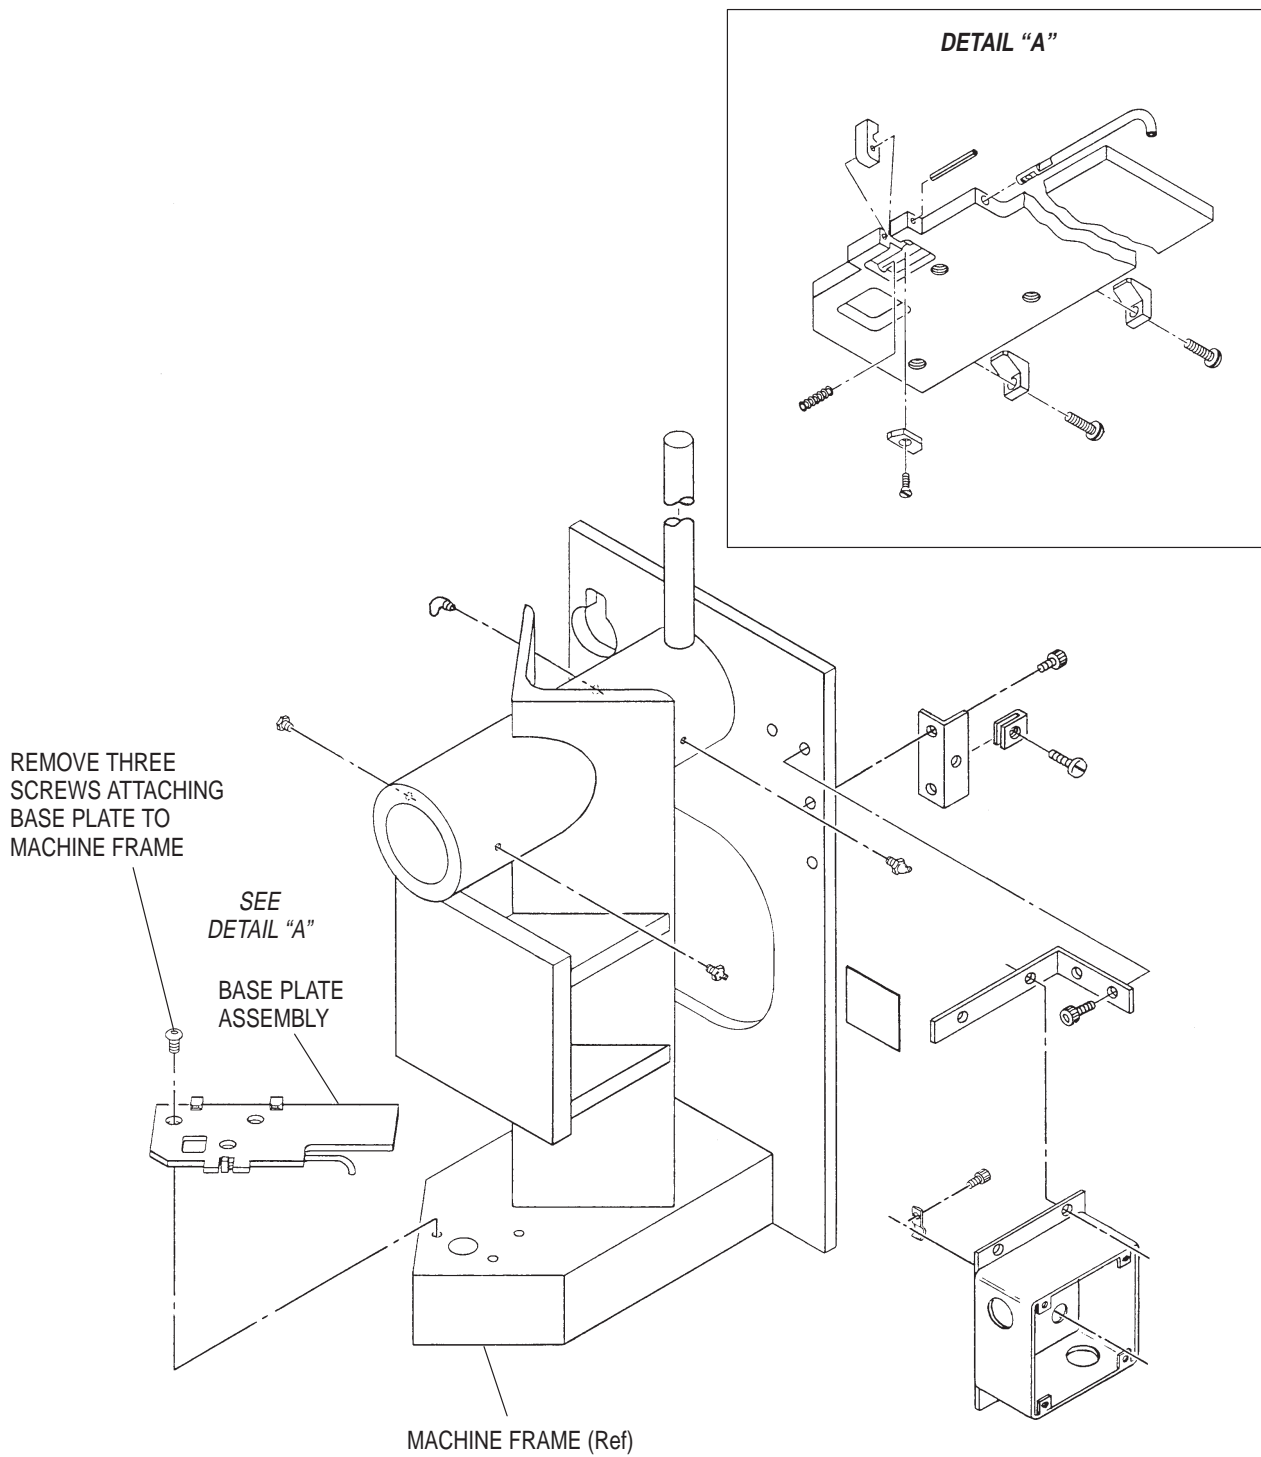

Figure 6-4. Base Plate Assembly
6.8. Base Plate Assembly Replacement (Figure 6-4)